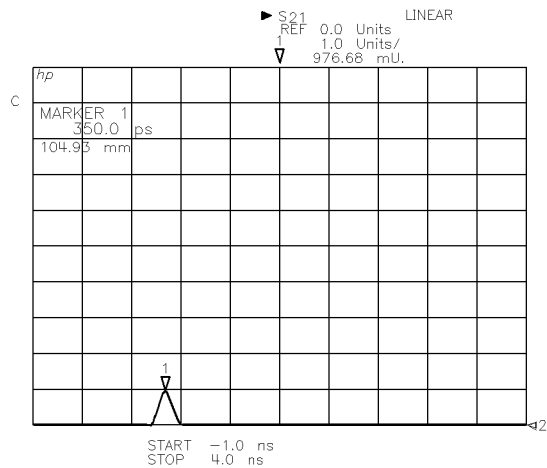

Figure 2-13. Time Domain Reflection Response of an Air Line: S₂₁
2. Observe that the peak response moves away from 0 nanoseconds, out to approximately 675 picoseconds. This indicates that the transmission return port is displaced by that time/distance away from the point at which the transmission calibration was performed. The result represents the actual electrical propagation delay of the air line. See Figure 2-13 for an example of the results display.